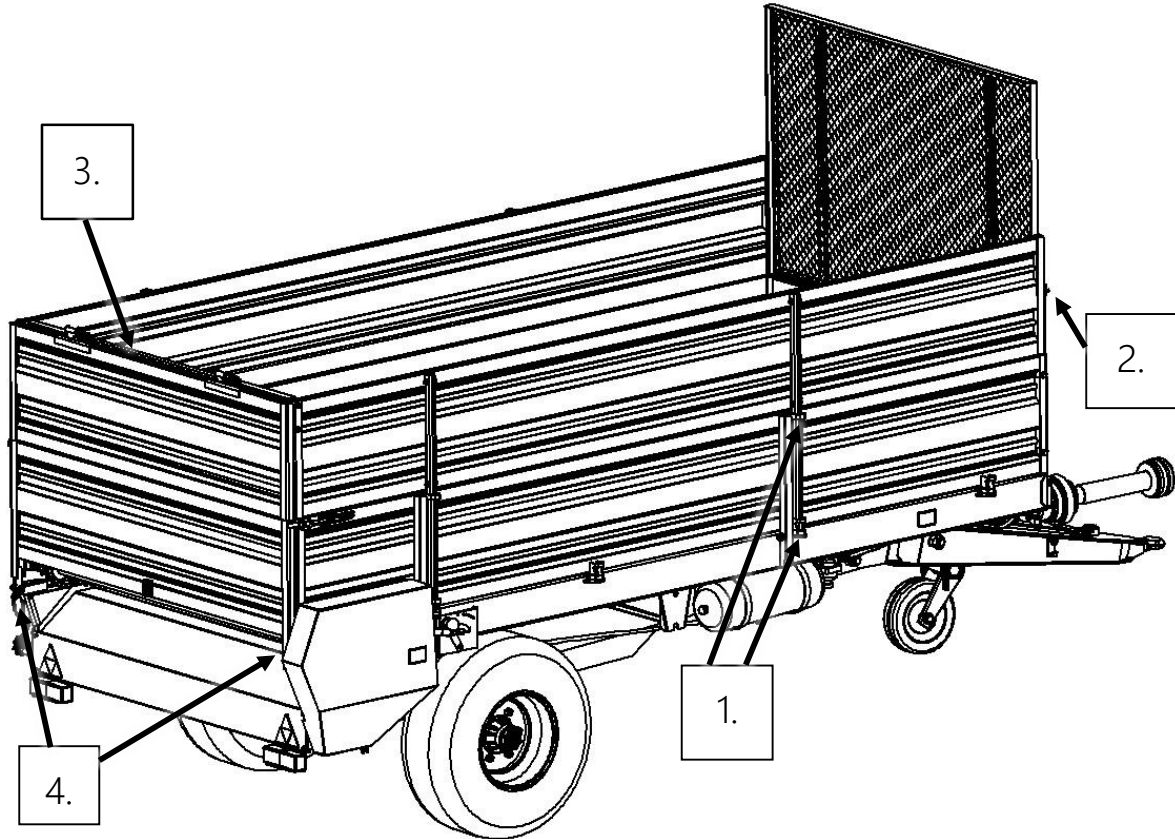

Figure 14. Installation of extensions.
- Place the extension brackets in the guides installed on the walls. (Item 1, Fig. 14)
- Tighten the bolts on the front mesh brackets. (Item 2, Fig. 14)
- Connect the right and left extension wall using the rear beam. (Item 3, Fig. 14)
- using a pin. (Item 4, Fig. 14)
- Mount the rear extension in the hinge located on the top beam. (Item 3, Fig. 14)